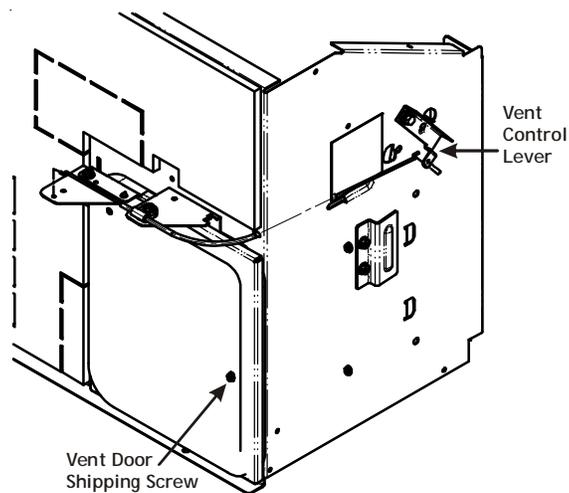

Figure 2
2. Open the vent door with the vent door lever located on the left side of the chassis. (Figure 2).